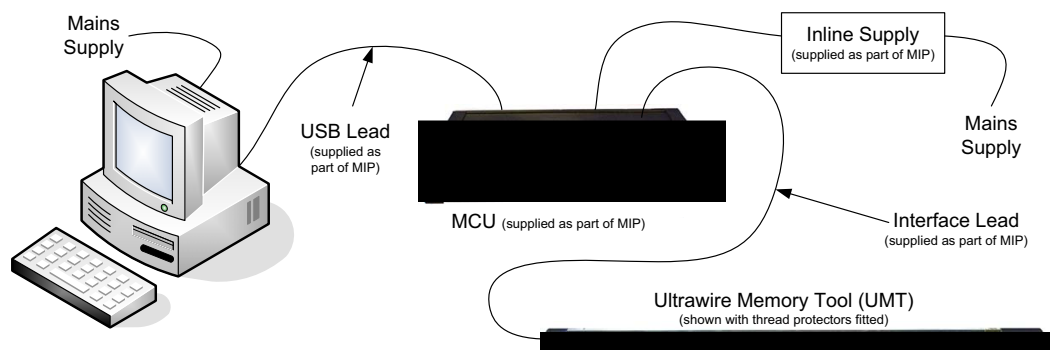

Figure 4.1 Programming Connection Diagram
- 2 When the job profile has been created, remove upper thread protector and connect the UMT as shown in Figure 4.1. Refer to Appendix A Equipment & Recommended Spares for equipment details.
Remove the upper thread protector and connect the UMT as per Figure 4.1. All operations are performed within the MEMLOG software. Refer to MN-MEMLOG for procedure.